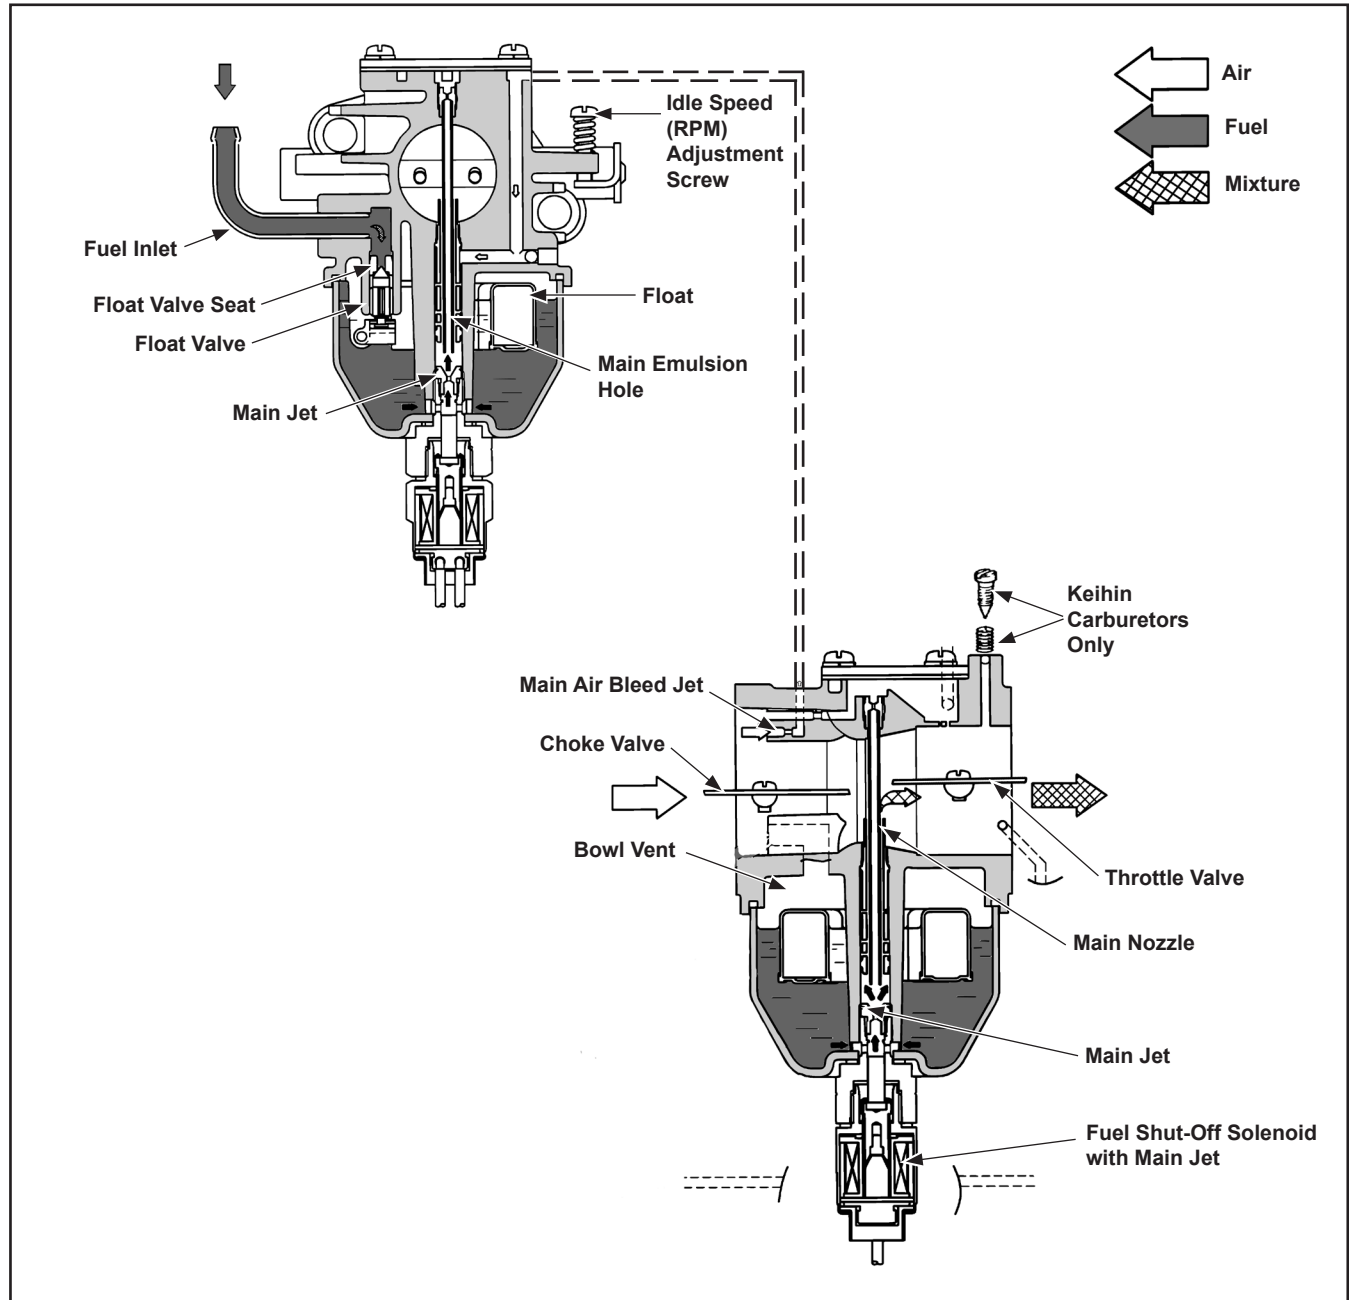

Figure 5-3. Main Circuit (Typical).
**Main Circuit:** (See Figure 5-3) At high speeds/loads the engine operates on the main circuit. As a metered amount of air is drawn through the main air bleed jet, fuel is drawn through the main jet. The air and fuel are mixed in the main nozzle and then enter the main body of airflow, where further mixing of the fuel and air takes place. This mixture is then delivered to the combustion chamber. The carburetor has a fixed main circuit; no adjustment is possible.